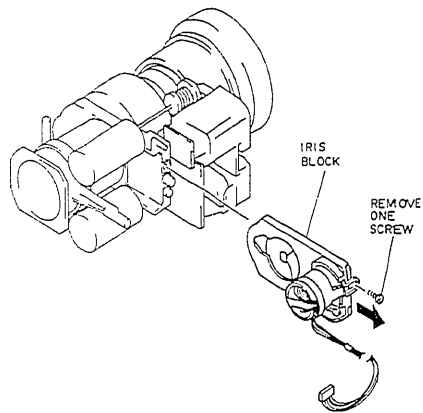

Fig. 2-104
- 1) Remove one (1) screw holding the iris block. (See Fig. 2-104)